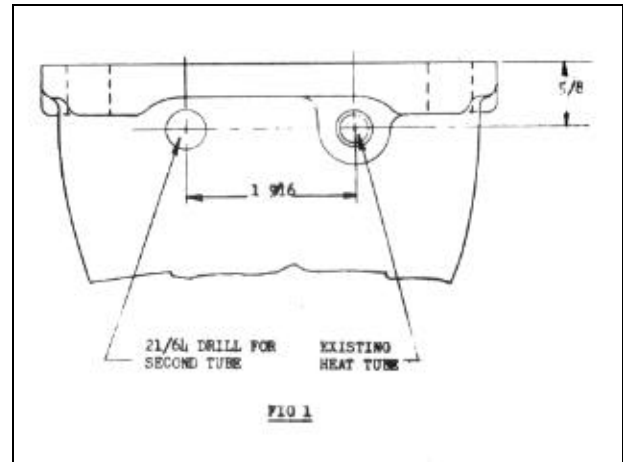

FIGURE 98
11. Layout and center punch the location of the second hole for choke heater tube 1-9/16" from the center of the existing heater tube as shown in Figure 98.